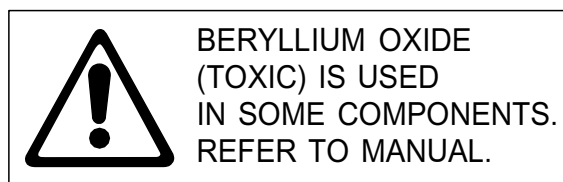

Figure 4. Beryllium oxide warning label
- Figure 4. Beryllium oxide warning label **15**